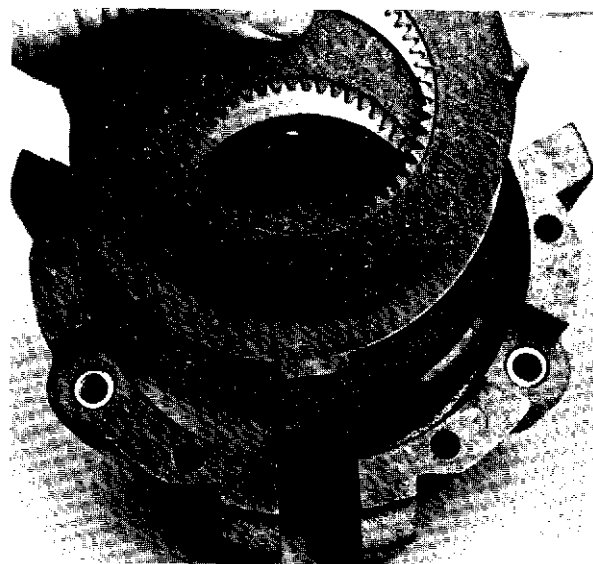
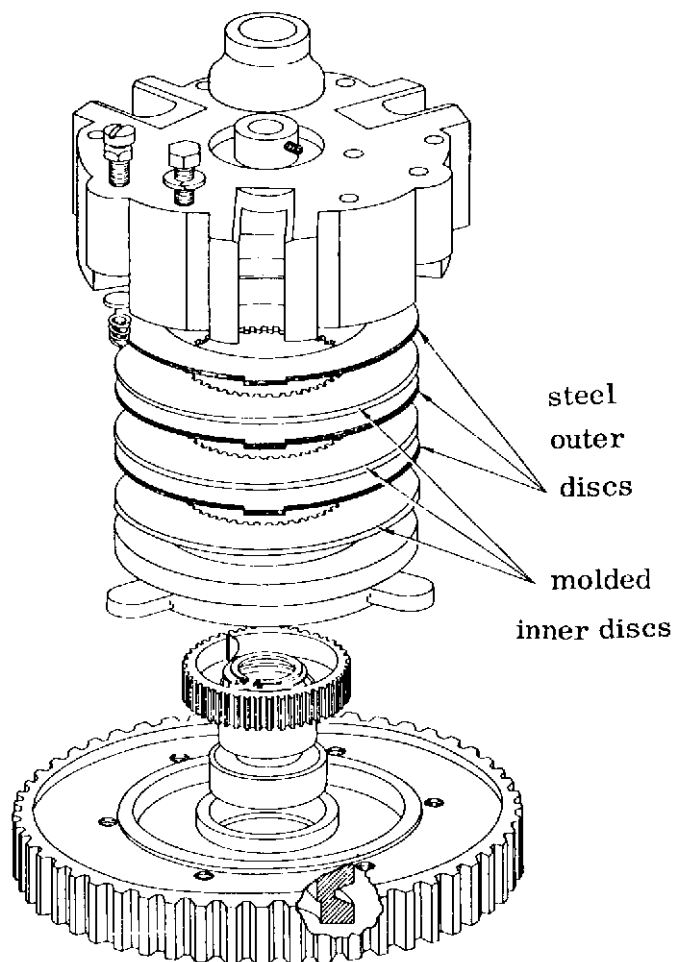

Fig. 9-14
Fig. 9-15
- (4) Install the steel outer disc and the molded inner disc as shown in Fig. 9-14 and Fig. 9-15.